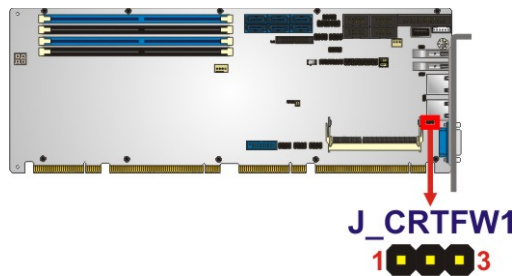

Figure 3-6: CRT FW Update Connector Location
- CN Location:** See **Figure 3-6**